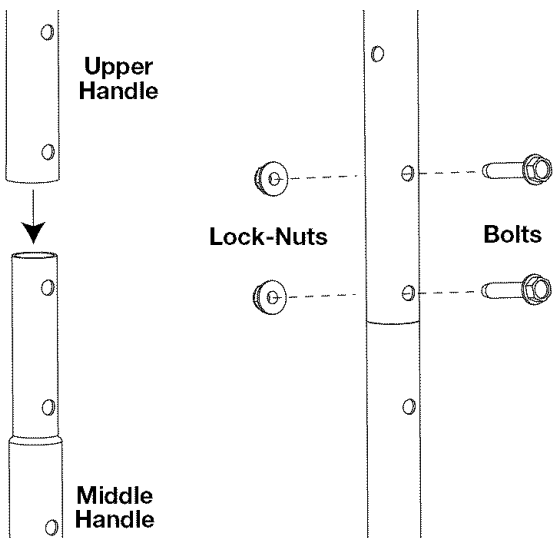

Fig. 2
5. Place the end of the upper handle onto the end of the middle handle making sure to align the holes. (Fig. 2)